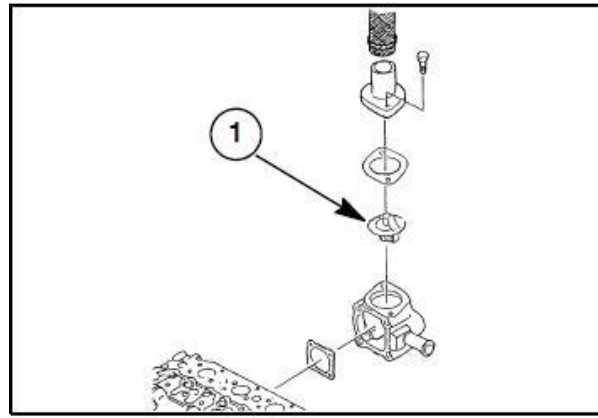

Figure 3-26
The thermostat (1) in Figure 3-26, is a heat-sensitive valve located in the coolant outlet connection in the front of the cylinder head.
To install a new thermostat (1) in Figure 3-26, position it in the recess of the water outlet connection so that the heat element (spring end) is in the cylinder head of the engine.